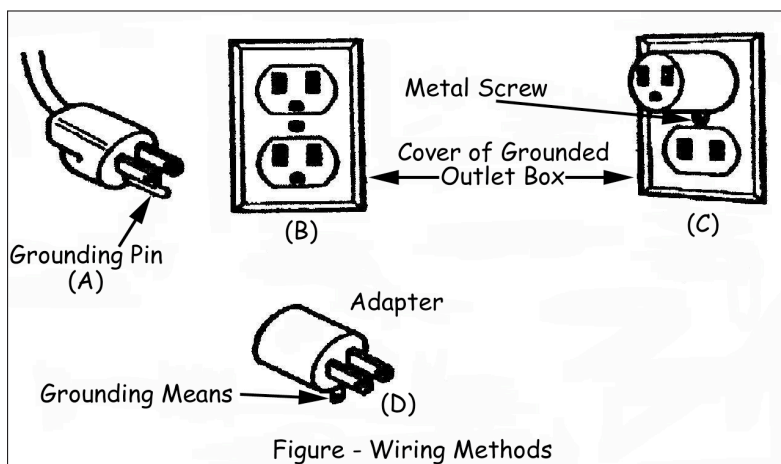

Fig. 1
1. Tools/equipment with three wire grounding plugs (Fig. 1, A) are intended for use on a circuit that has an outlet that looks like the one illustrated (Fig. 1, B).
2. A temporary adapter (Fig. 1, D) may be used to connect this plug to a 2-pole receptacle (Fig. 1, C) if a properly grounded outlet is not available.
4. The green colored rigid ear, lug, etc. extending from the adapter must be connected to a permanent ground such as a properly grounded outlet box (Fig. 1, C).